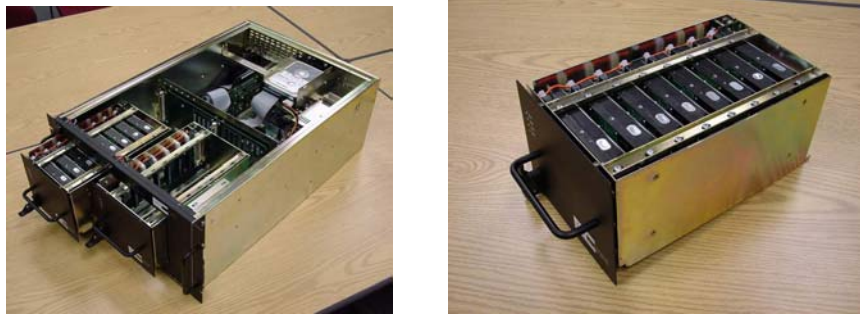

Figure 1: Mark 5A chassis and '8-pack' disk module
- Data rate capability to 1024 Mbps onto a single ‘8-pack’ disk module (Figure 1)
- System is housed in a single 5U chassis (Figure 1) which holds two ‘8-pack’ modules